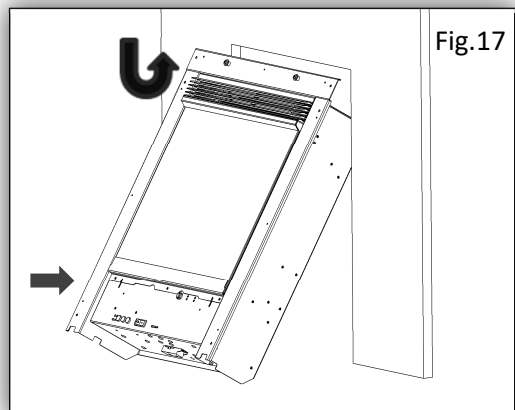

Fig.17
18. To fit the fire in place. Position the rear hook bracket under the back panel at an angle (**See Fig. 17**), taking care not to trap the power cable.